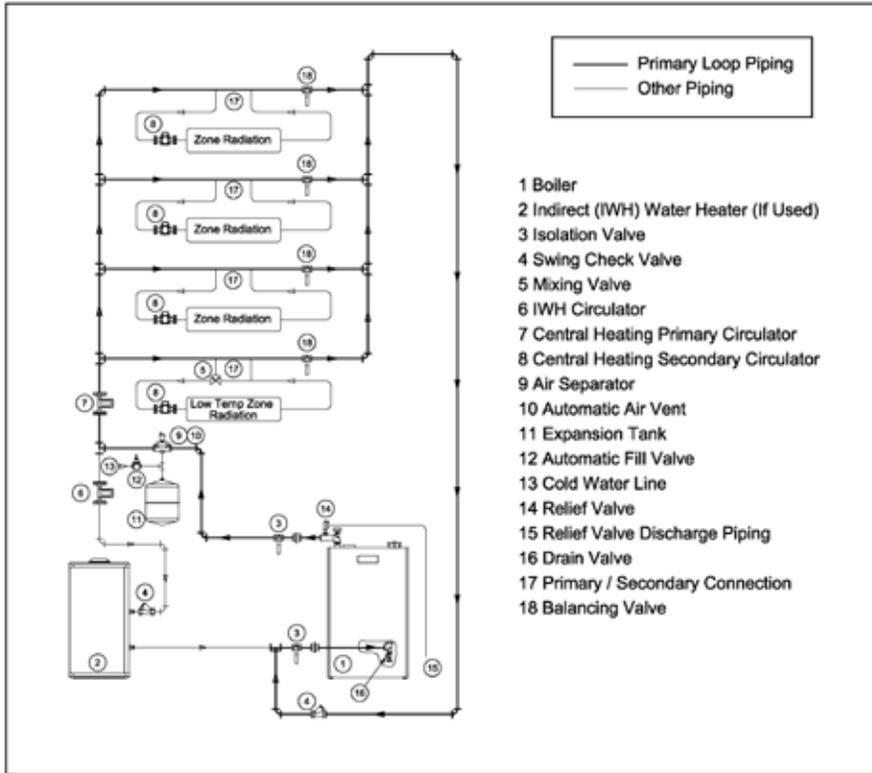

Figure 8.10b: Piping Method #2 - Primary Loop Piping (Bolded)
This system provides more accurate control of the water temperature entering the heating zones as the number of zones calling for heat changes. When this piping method is used, the boiler control is set to provide the highest supply temperature required by any heating zone and some other means, such as 3-way valves, are used to control the water temperatures required by any zones requiring lower temperature water. This system is only recommended when the primary loop (shown bolded in Figure 8.10b) is to be constructed as part of the boiler installation and can be constructed as shown. Also, if the boiler is to accurately control the temperature entering each secondary loop, the flow rate in the primary loop must be at least as great as the sum of the flows through all secondary loops.
- 2) Heating System Primary Loop (“Boiler Loop”) – The primary loop (“boiler loop”) piping is shown bolded in Figure 8.10b. All piping in this loop must be the size shown for the boiler in Table 8.5, column a. To size the circulator: